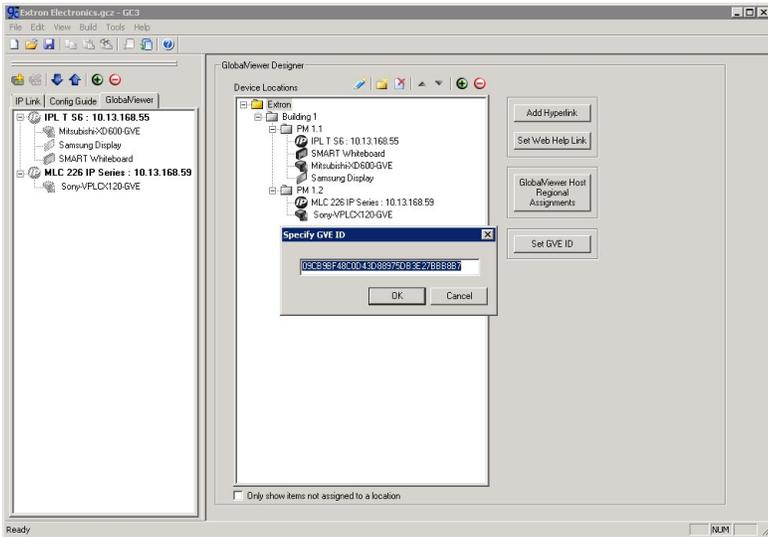

**Figure 8. MediaLink Controllers and System 5 IP Switchers Configuration**
**MediaLink Controllers and System 5 IP Switchers** — Rename the input on the front panel tab by editing the Line 1 and Line 2 fields (see figure 8).